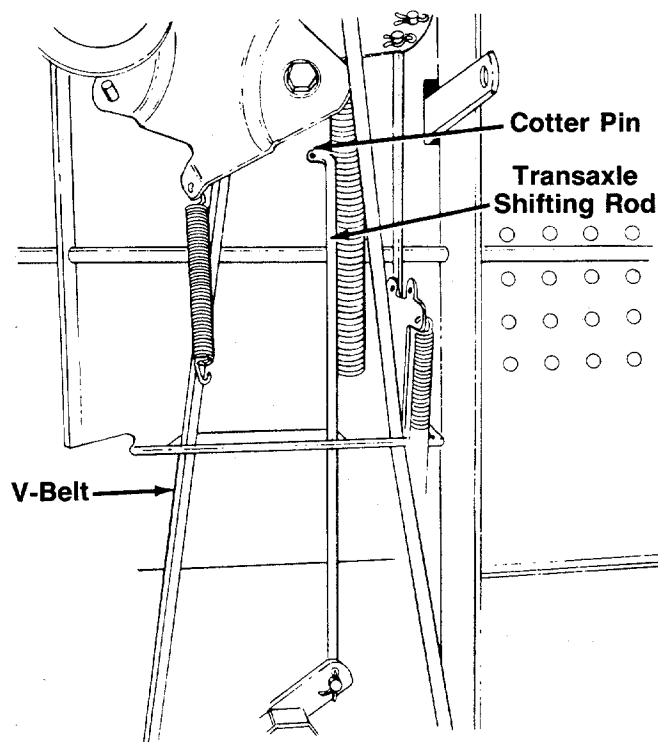

FIGURE 21.
- Remove the cotter pin from the transaxle shifting rod and pull it out of the bracket. See figure 21.